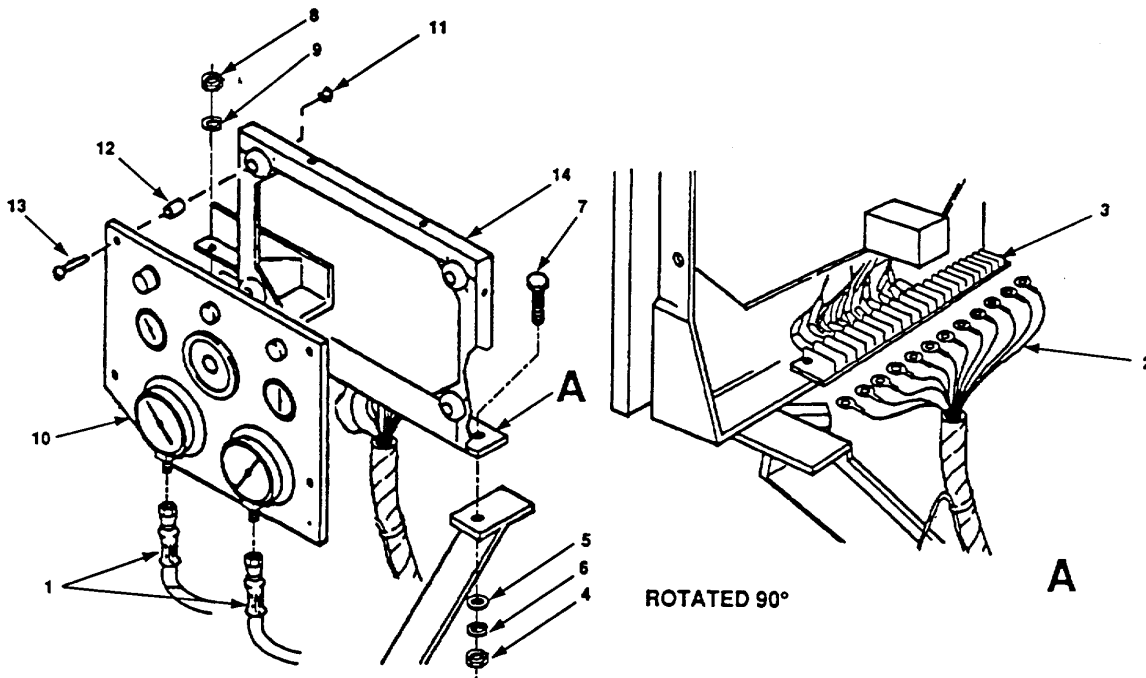

Figure 4-41. Control Panel Removal and Installation.
- a. Tag and disconnect two hoses (figure 4-41, 1).
- b. Tag and disconnect all wires (2) from terminal board (3).
- c. Remove nut (4), lockwasher (5), washer (6) and bolt (7).
- d. Remove two nuts (8) and lockwashers (9).
- e. Remove control panel assembly (10).
- f. Remove four lock nuts (11), spacers (12), screws (13) and control panel assembly (10) from support bracket (14).